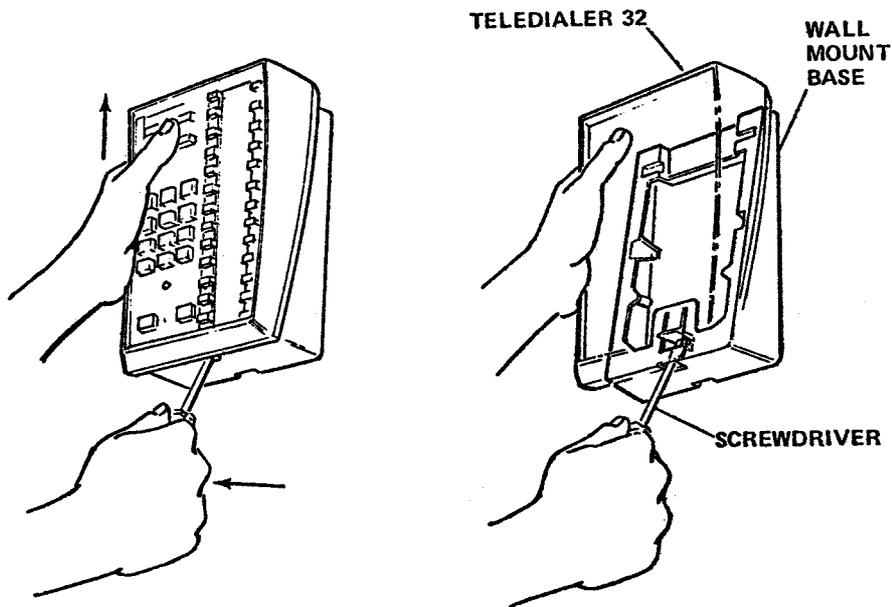

FIGURE 5
- (a) Observing the wall bracket orientation as shown in Figure 5, mount it to the wall placing the No. 8x1 inch screws through the two mounting holes on the bracket. Do not overtighten the screws.
3.09 When necessary, the TeleDialer can be removed from its wall mounting by inserting a screwdriver or other suitable tool up through the hole (Figure 5) at the lower edge of the TeleDialer. The tool used should come to rest against a plastic tab located therein. Now, with one hand applying an upward lifting force on the TeleDialer, pull the handle of the tool used outward toward you, so that the tip of the tool will move the inner plastic tab back toward the wall  $\frac{1}{4}$  inch or less. While the plastic tab is being held back, the TeleDialer should slide upward and free of the bracket.